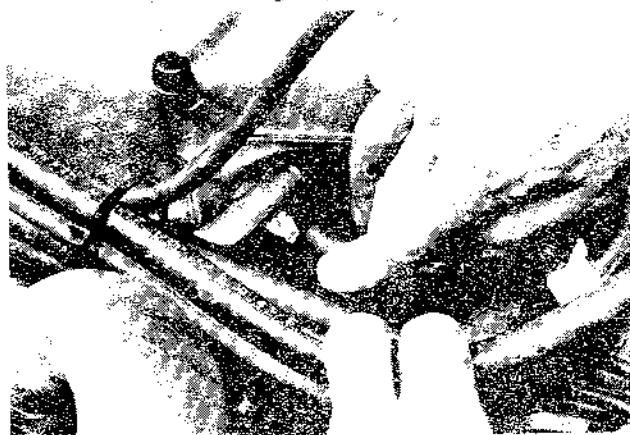

Fig.16
- 7 If fitted, disconnect the hose from the air conditioning air valve, and seal the plenum chamber (as Fig.16).